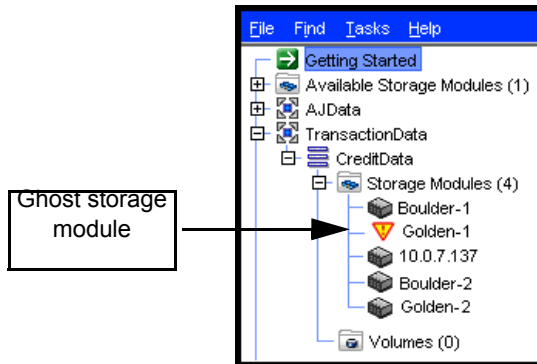

Figure 144. Viewing the Ghost Storage Module
- The storage module leaves the management group and moves to the Available group. A placeholder, or “ghost” storage module remains in the cluster, shown in Figure 144. It is labelled with an IP address instead of a host name.
The ghost storage module remains in the cluster, shown in Figure 144.